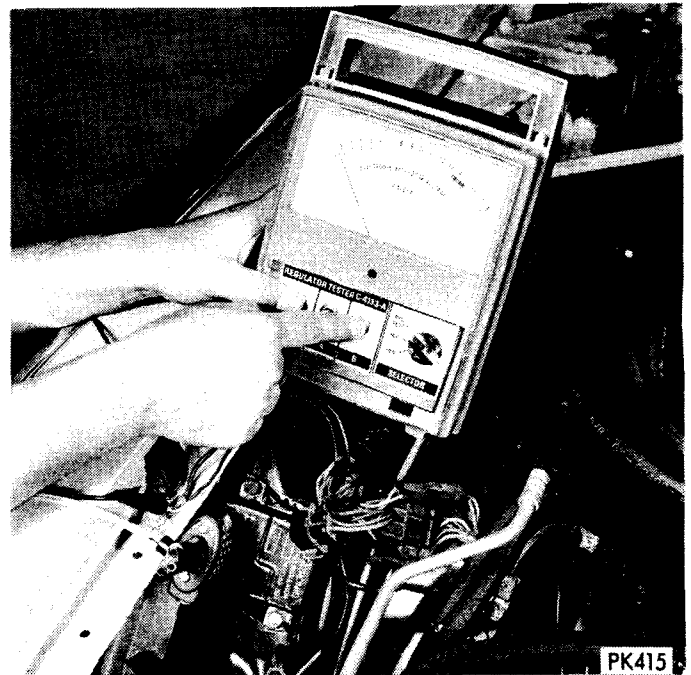

Fig. 11—Voltage Regulator Test (Depressing Test Button and Red Button "B")
(8) While holding the test button in, depress **Red Button** (B) (Fig. 11), the meter should read above the red line.
(9) If all tests remain within limits the voltage regulator is good.
(10) If regulator tests defective by this procedure, do not replace it until ground circuit of regulator has been checked.